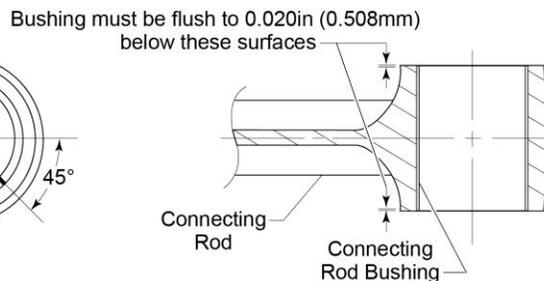

Figure 4
- G. Examine the bushing after installation to make sure the bushing is flush to 0.020 in. (0.508 mm) below the connecting rod surface (Figure 4) on both sides of the connecting rod.